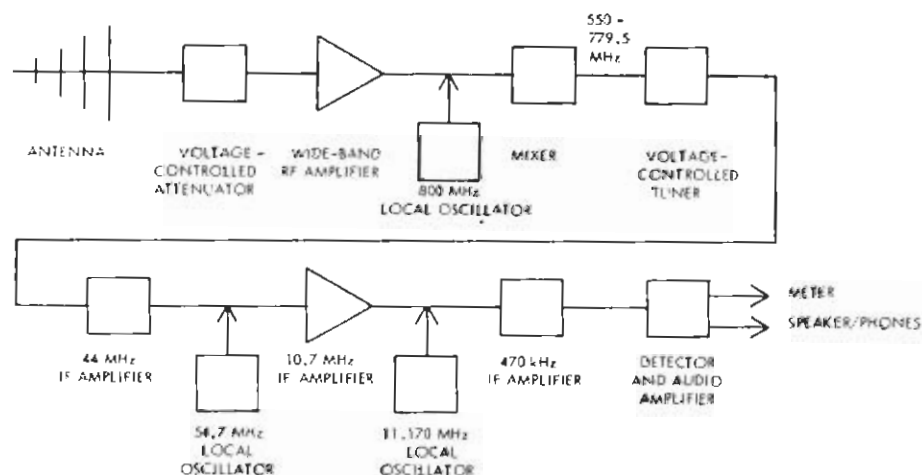

Figure 1
2.2 Block Diagram. The block diagram for the complete instrument is shown in Figure 1.